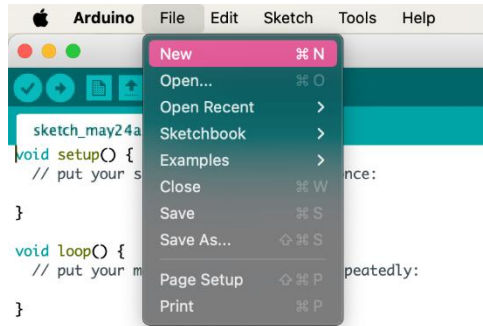

Figure 10: Creating a new project
4. Touch one probe to each side of the resistor (see Figure 10)
2. Go to **File > New** to create a new sketch (project). This will open a blank window where you can begin coding for the Arduino Uno (see Figure 10).